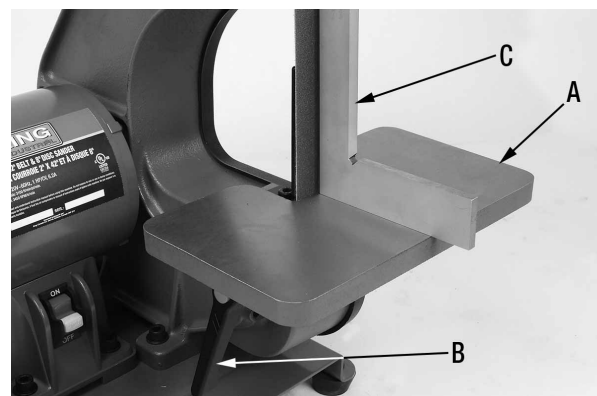

Figure 9
The belt table (A) Fig.9 can be tilted downward from 0-45°. To adjust and set the belt table angle to a perfect 90° angle:
1. Loosen the belt table lock handle (B) Fig.9, now the belt table (A) can be tilted and locked at the desired angle.
2. To set the belt table at a perfect 90° angle to the sanding belt, loosen lock handle (B) Fig.9, then position a square (C) on the table and up against the sanding belt. Adjust the angle of the belt table until the sanding belt and belt table are square, retighten lock handle (B).